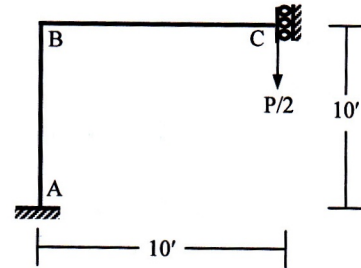

Fig. 7
7. Use the Stiffness Method (considering geometric nonlinearity) to calculate the approximate first critical buckling load for the frame loaded as shown in *Fig. 7* [Given: $EI = 50 \times 10^3 \text{ k-ft}^2$].